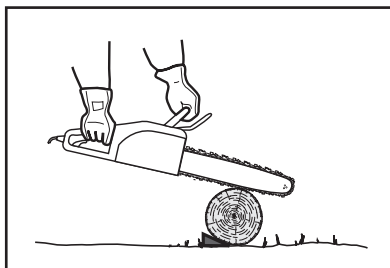

Fig. 35
- If the wood diameter is large enough for you to insert a soft bucking wedge without touching the chain, you should use the wedge to hold the cut open to prevent pinching (Fig. 35).